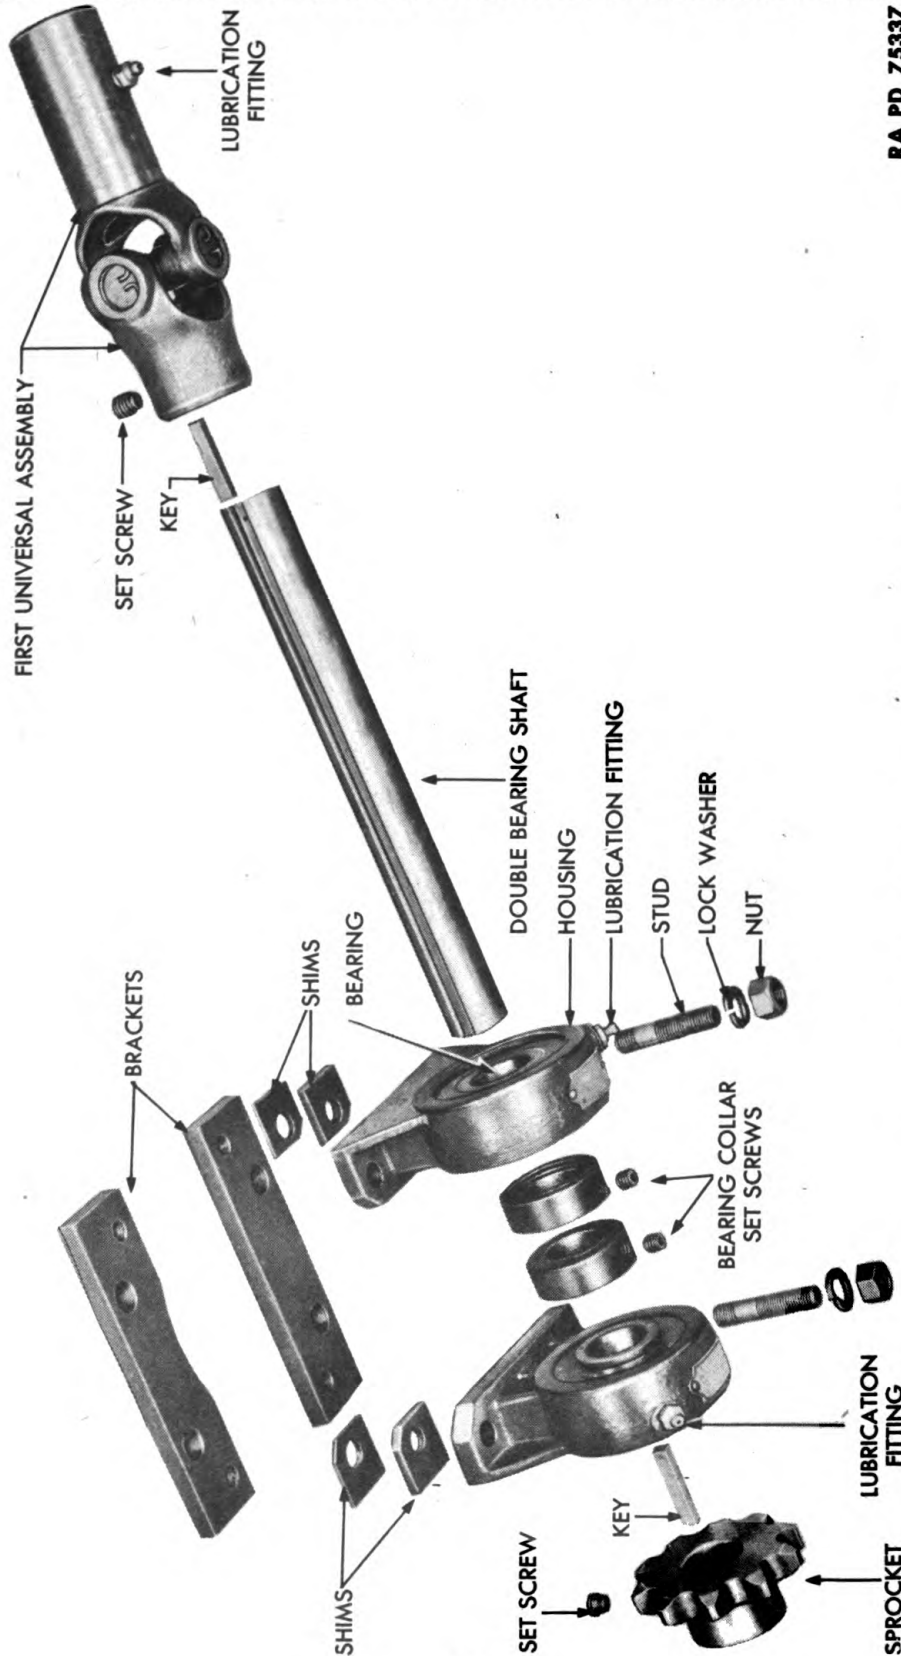

Figure 29 – Double Bearing – Disassembled
(2) **DISASSEMBLE DOUBLE BEARING** (fig. 29). Loosen two bearing collar set screws, and pull double bearing shaft with sprocket out
(2) **ASSEMBLE DOUBLE BEARINGS** (fig. 29). Install two bearings and shims on brackets, and fasten with four nuts and lock washers. Install sprocket key and sprocket on double bearing shaft, and